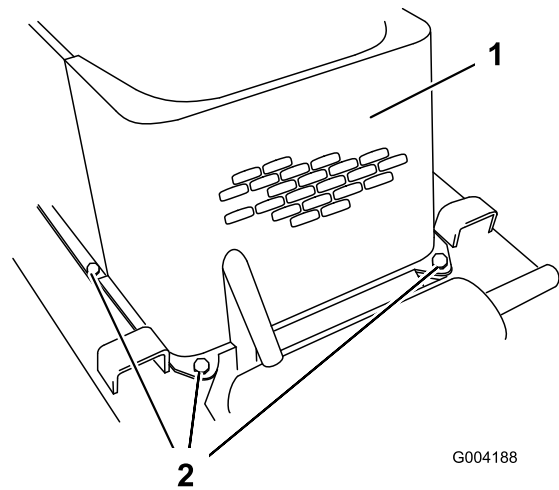

Figure 30
5. Remove the 4 bolts securing the front screen to the frame (Figure 30).